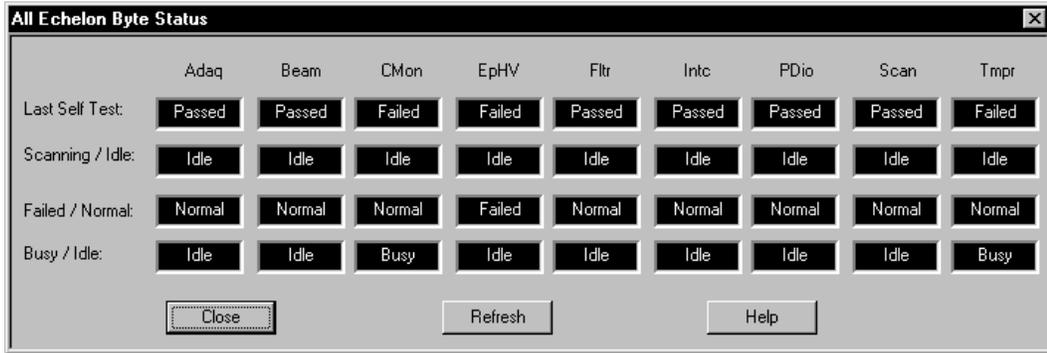

Figure 7-4. All Echelon Byte Status.
**All Echelon Byte Status**—This icon brings up the All Echelon Byte Status window (figure 7-4), which displays basic status data for all nine Echelon network boards.